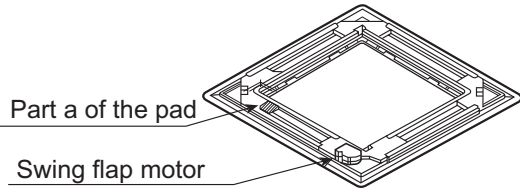

Fig. 5
② Install part a of the pad on the place shown in Fig. 5. Refer to Fig. 6.